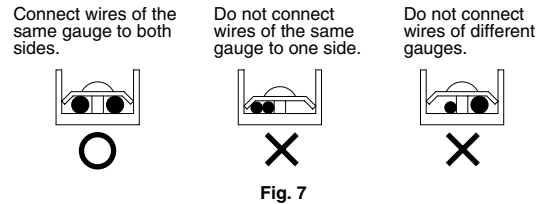

Fig. 7
- (b) When connecting wire of the same diameter, make the connection as shown in the figure 7.